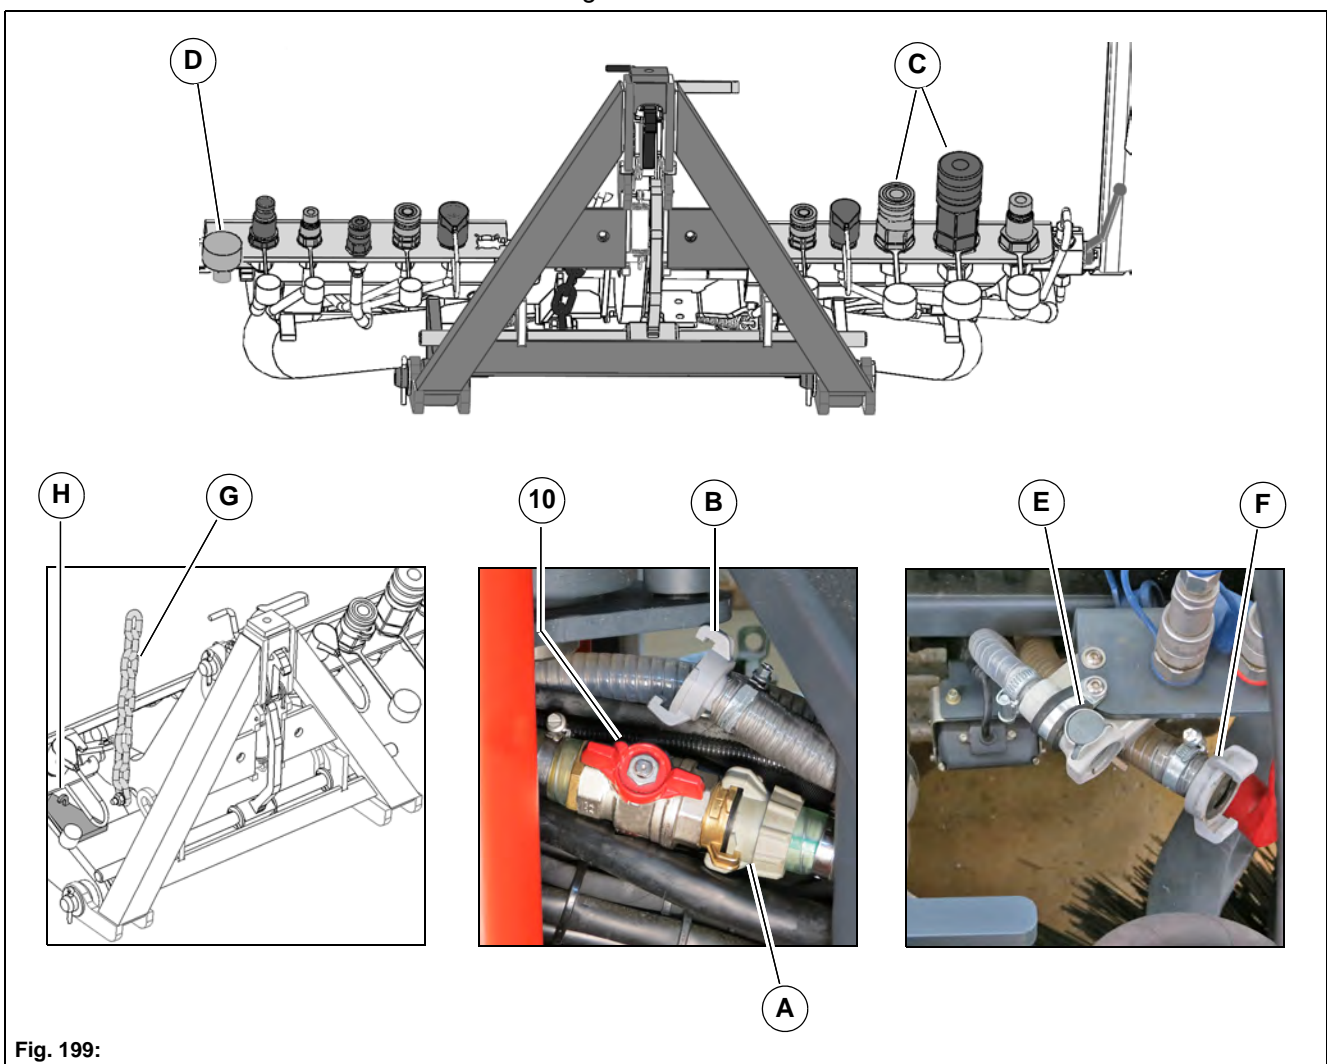

Fig. 199:
7. Remove the circulating water hose **Fig. 199-A** of the vacuum sweeping system at the ball cock.
8. Mount the yellow marked circulating water hose **Fig. 199-B** of the scrubbing deck (rotating coupler).
- Scrubbing deck hydraulic motors – Supply/return = **Fig. 199-C**
- 19-pin coding plug = **Fig. 199-D**
- Fresh water coupling (quick coupler) = **Fig. 199-E**
- Circulating water coupling (rotating coupler) = **Fig. 199-F**.
10. Hook the chain **Fig. 199-G** onto the hook **Fig. 199-H**.